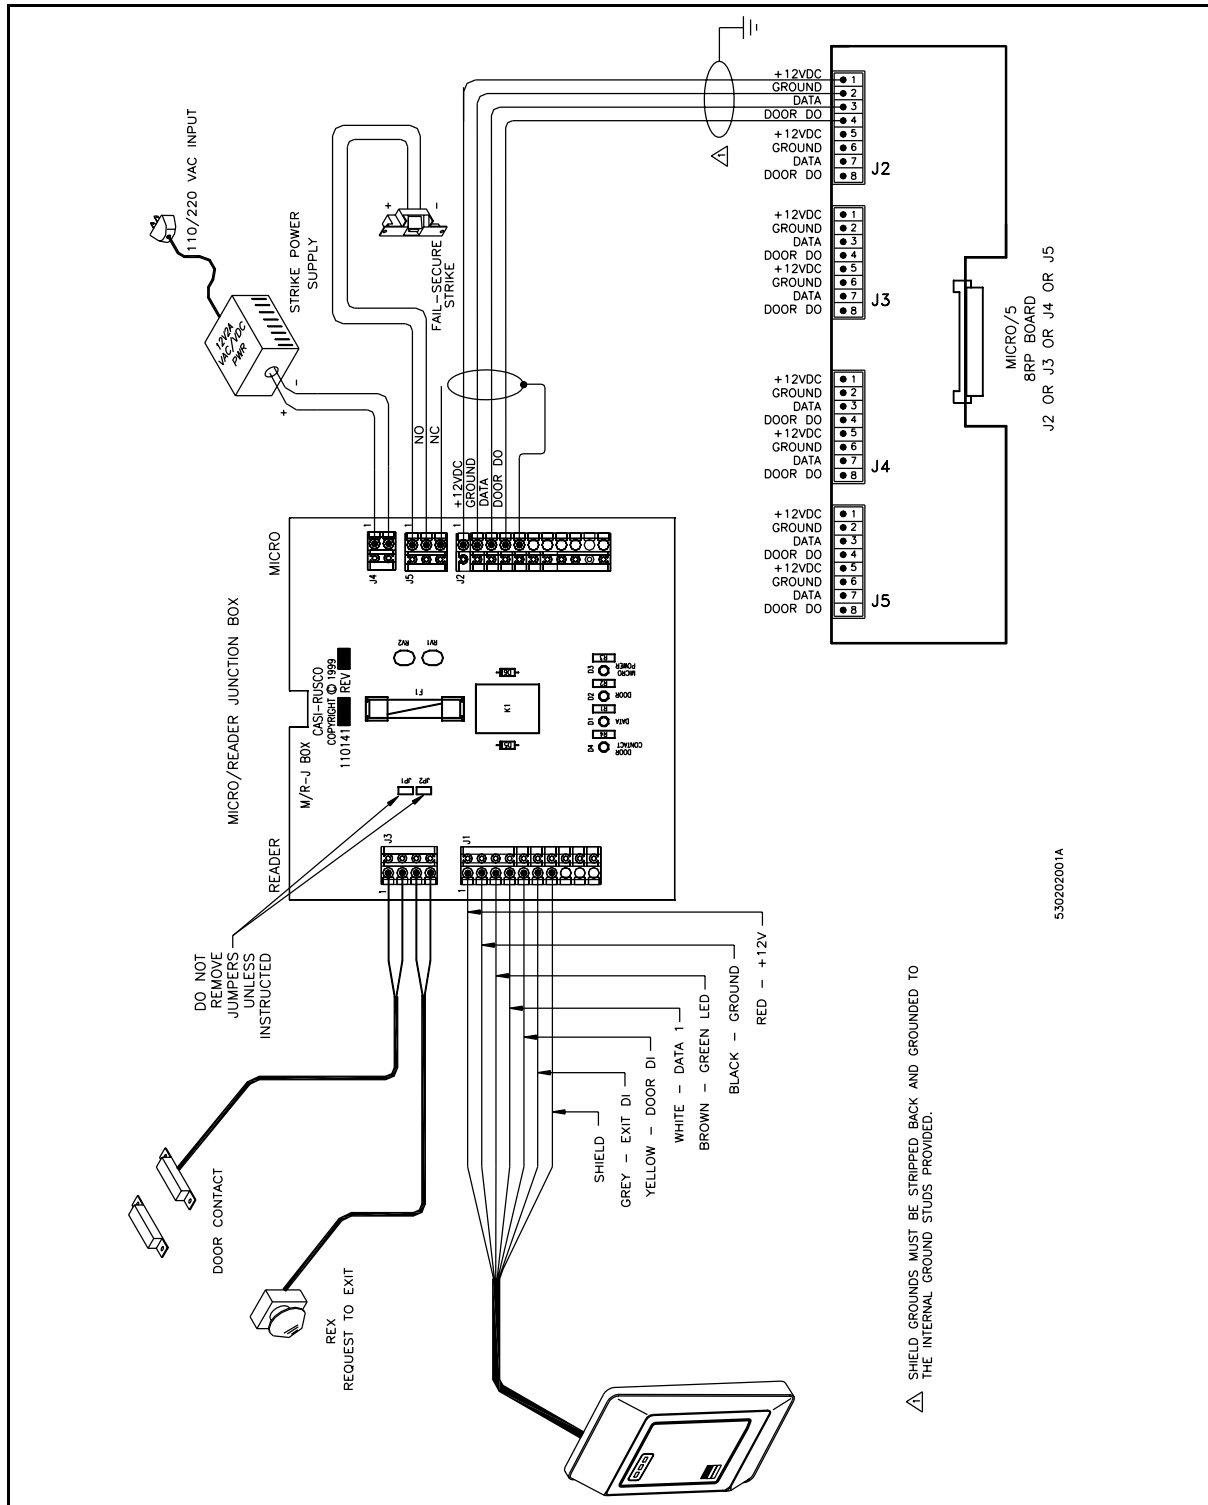

Figure 5. Junction Box to Micro/5 8RP Microcontroller
- Figure 5. Junction Box to Micro/5 8RP Microcontroller